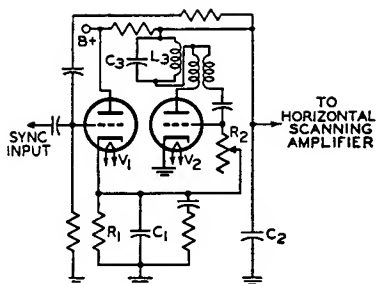
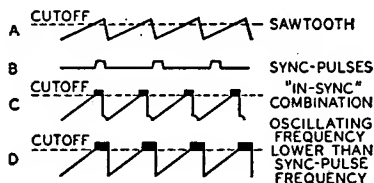
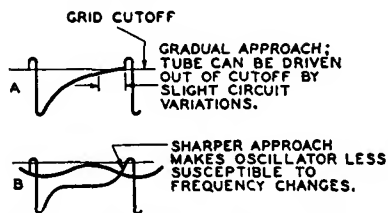

Fig. 70—Simplified synchroguide circuit.
Fig. 71—Sawtooth and sync pulses in synchroguide circuit.
Fig. 72—Waveforms showing effect of tuned circuit  $L_3C_3$  in Fig. 70.
The "synchroguide" is a controlled type of oscillator used in television receivers to generate and control the synchronized sawtooth voltage necessary for adequate line- or horizontal-frequency scanning. A simplified synchroguide circuit is shown in Fig. 70. This circuit provides stable, noise-free control of a blocking oscillator which generates a horizontal-frequency signal. It permits comparison of the received sync pulses and the generated sawtooth voltages so
The triode  $V_2$  in Fig. 70 is a conventional blocking oscillator which enables a sawtooth voltage to be developed across the capacitor  $C_2$ . A portion of this sawtooth is fed back to the grid of the control tube,  $V_1$ . The positive sync pulses are also applied to the grid of  $V_1$ . The waveforms shown in Fig. 71 illustrate the sawtooth and sync pulses (A and B) and their proper "in-sync" combination (C). The sync pulse occurs partly during the portion of the sawtooth voltage in which the triode  $V_1$  draws current. Any shift in sync pulse as it is superimposed on the sawtooth, therefore, will affect the amount of conduction of the control tube. A change in control-tube conduction ultimately affects the bias on the oscillator-tube grid by changing the voltage to which the capacitor  $C_1$  in the cathode circuit may charge. An increase in the positive bias increases the frequency of oscillation.
For example, waveform D in Fig. 71 illustrates a condition in which the sawtooth voltage is advanced in phase with respect to the sync pulses. The widening of the pulse which occurs at
The blocking oscillator can be made more immune to changes in frequency and noise if  $V_2$  is brought out of cutoff very sharply. This effect is obtained by sine-wave stabilization. The tuned circuit  $L_3C_3$  in the plate circuit of Fig. 70 superimposes a shock-excited sine wave on the plate and grid waveforms, as shown in Fig. 72.